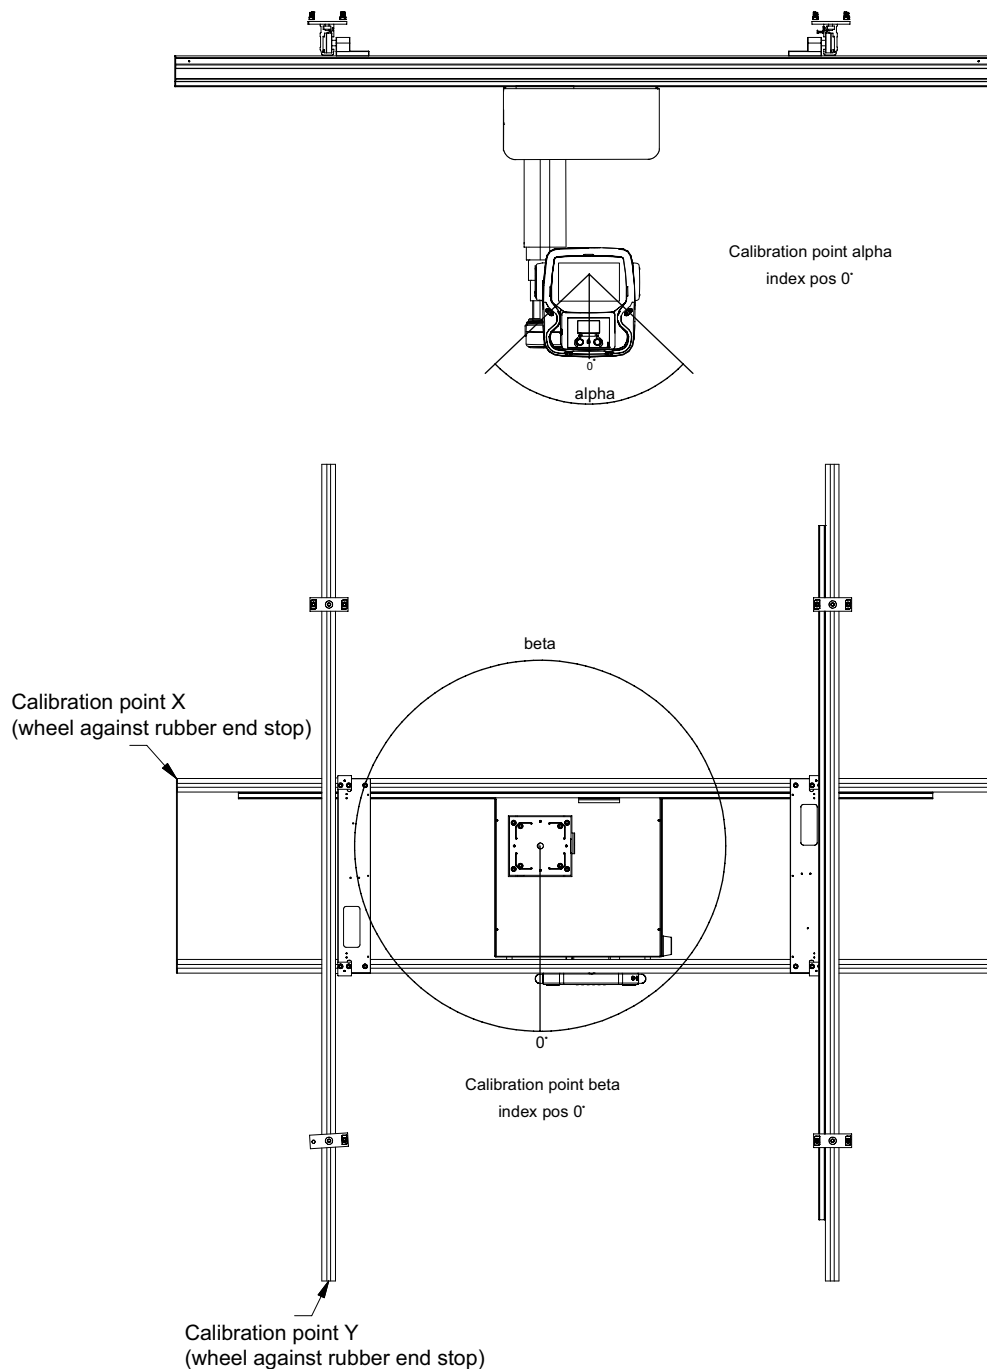

Fig. 4-114 Calibration X, Y
The overhead tube crane must be calibrated according to **Fig. 4-114**, irrespective of how the overhead tube crane is going to be used after the installation, (i.e. normal installation or reverse installation) and the placement of the Table in relation to X and Y.
2. Move the stand (X-axis) to its calibration point. See **Fig. 4-114**.